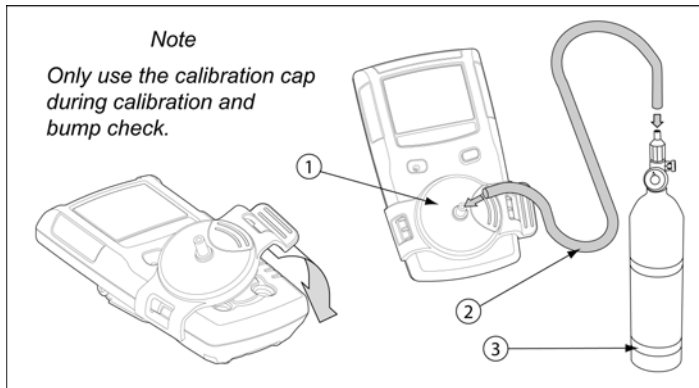

Figure 7. Connecting the Gas Cylinder to the Detector
Refer to the following Figure 7, Table 12, and procedures to connect the gas cylinder to the detector for calibration.
5. Attach the calibration cap to the detector (Figure 7). Open the valve on the regulator and apply gas at a flow rate of 250-500 ml/min.